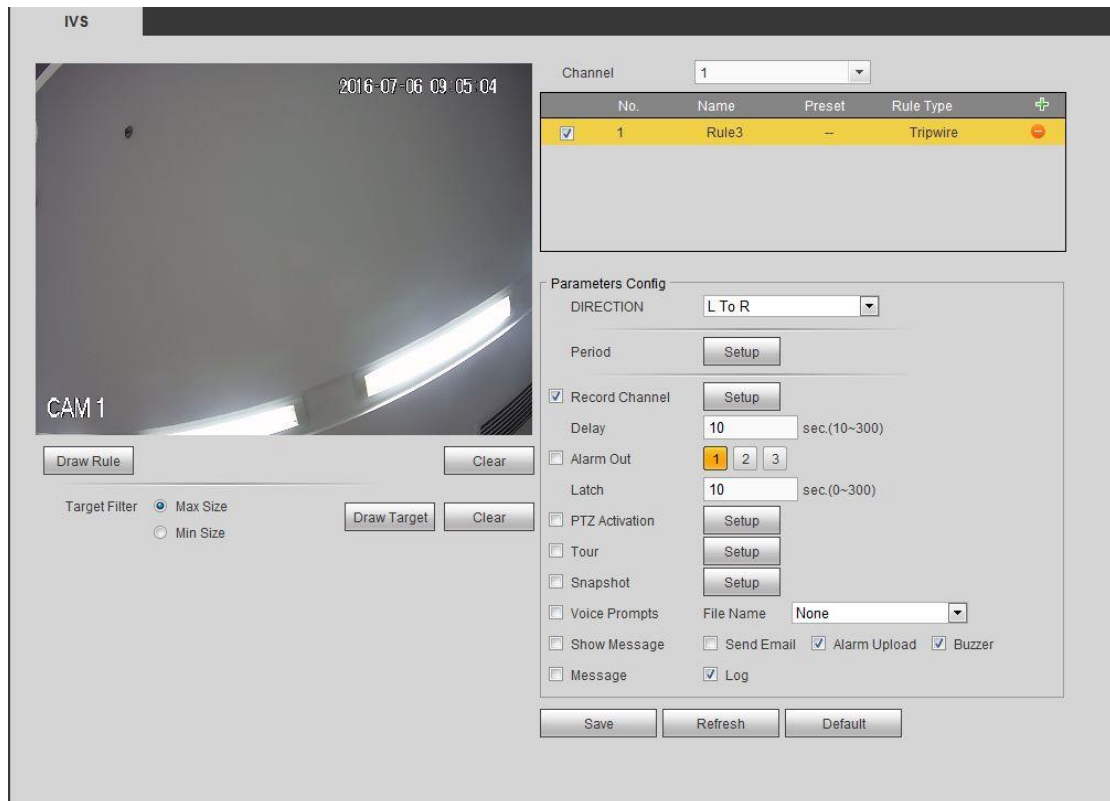

Figure 5-68
Step 2 Check the Tripwire box to enable tripwire function. See Figure 5-68.